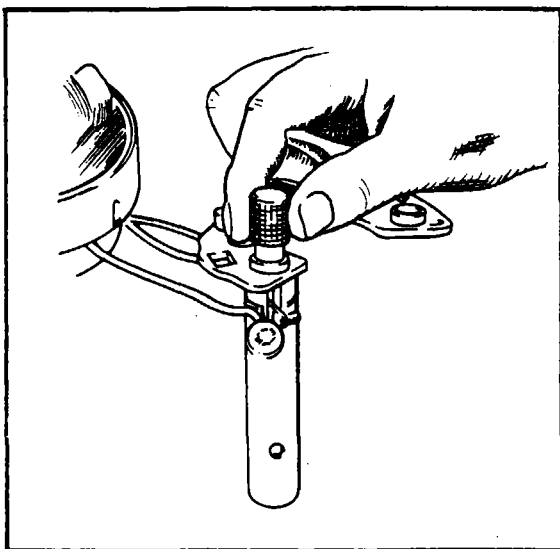

Figure 11-36. Removal of Rectifier
- d. Remove the nuts, lock washers, flat washers and insulators from the output and auxiliary terminal studs. Note carefully the correct assembly of the insulator washers and bushings. Using the special tools shown in Figure 11-36, support the end head and press out the three negative rectifiers. The end head can now be separated from the stator assembly.